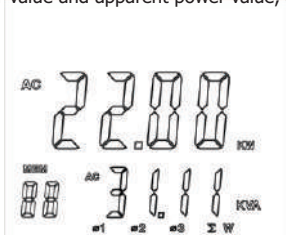

Figure 13
4. After recording the current power measurement value of the third phase, finally press Σ and hold for 1seconds to display the 3 phase sum of active power value and apparent power value, as in figure 13.